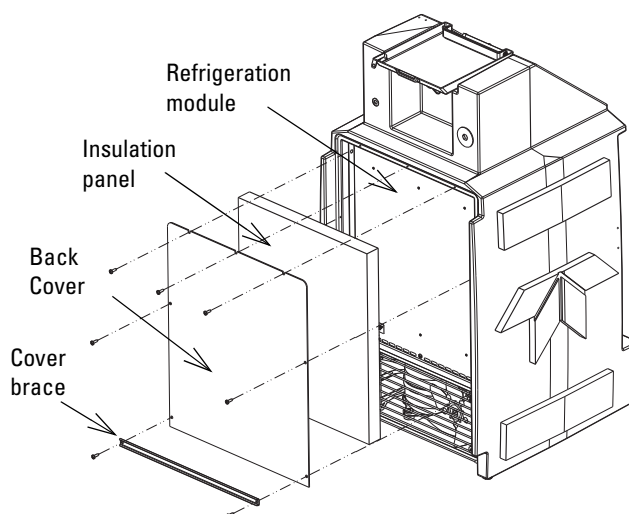

Figure 1: Remove back cover and insulation
2. Remove the cover brace, back cover, and insulation panel (Figure 1).